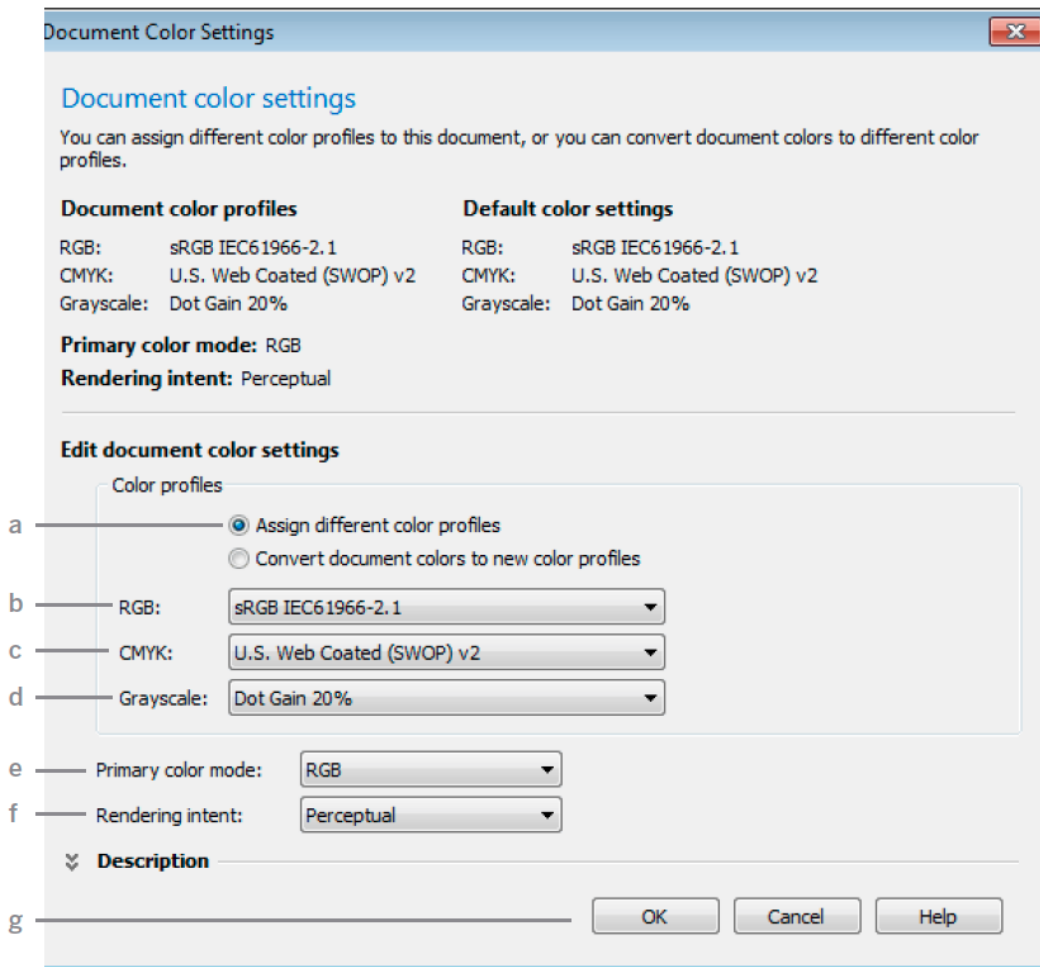

FIGURE 6
6. In the **Document Color Settings** window, match your settings to those shown below. See Figure 6.